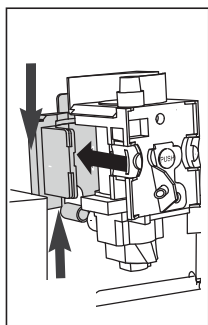

Fig. 42
- After cleaning, replace the brewing unit (A5) by sliding it onto the internal support and pin at the bottom, then push the PUSH symbol fully in until it clicks into place (Fig. 42).